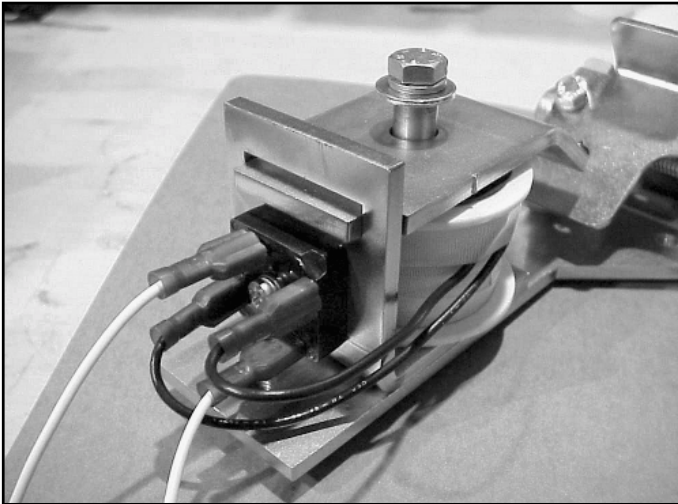

Figure 7: Alignment of latch components
8. Reassemble all components removed in step 3, insuring steel shim is between coil core and coil core bracket, and secure 8mm x 1.25 bolt to latch base plate. Insure all components are correctly aligned and the coil wires are not binding or pinched, Figure 7.